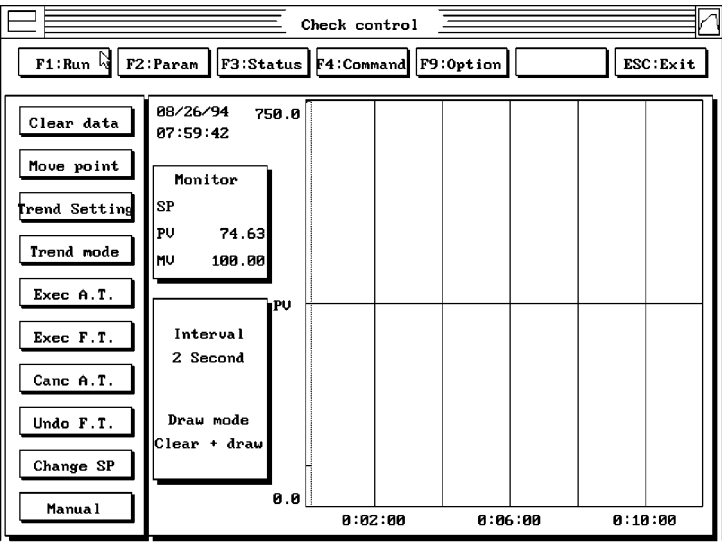

Figure 21
- 2. Select **Exec F. T.** from the **Check control** menu (Figure 21).